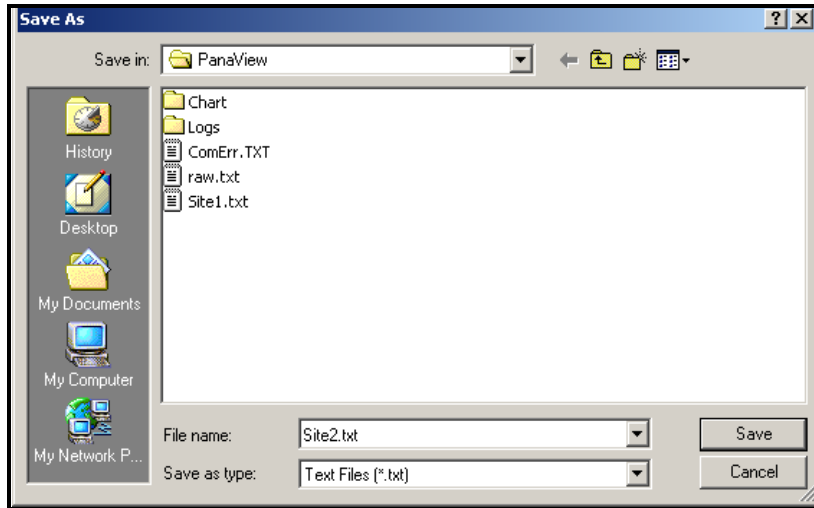

Figure 30: Save As Window
To *save* the raw signal, click *Save*. A window opens similar to that shown in Figure 30 below. Enter the desired name, and click *Save* to save the signal as a text file.
2. Click *Save Site to PC*. A window opens similar to Figure 30 on page 105.